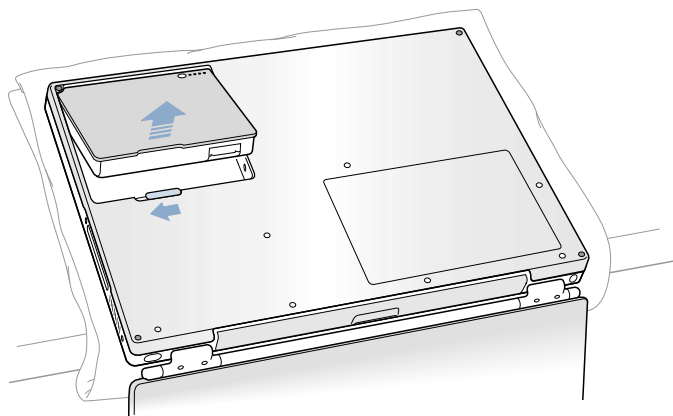

Figure 2
6. Remove the battery by sliding the battery latch to the left. Make sure to return the latch fully to the right (**Figure 2**). Removing the battery will prevent you from accidentally turning on the computer.